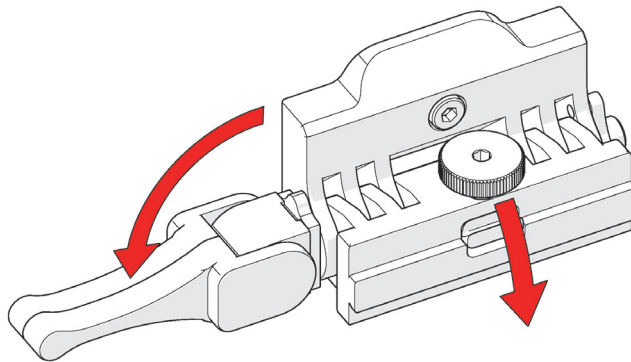

Figure 2-101 Angle pivot nose down
3. Release the side lever of the raster arm pivot nose (male) and angle the raster arm pivot nose downward (see Figure 2-101 on page 123).